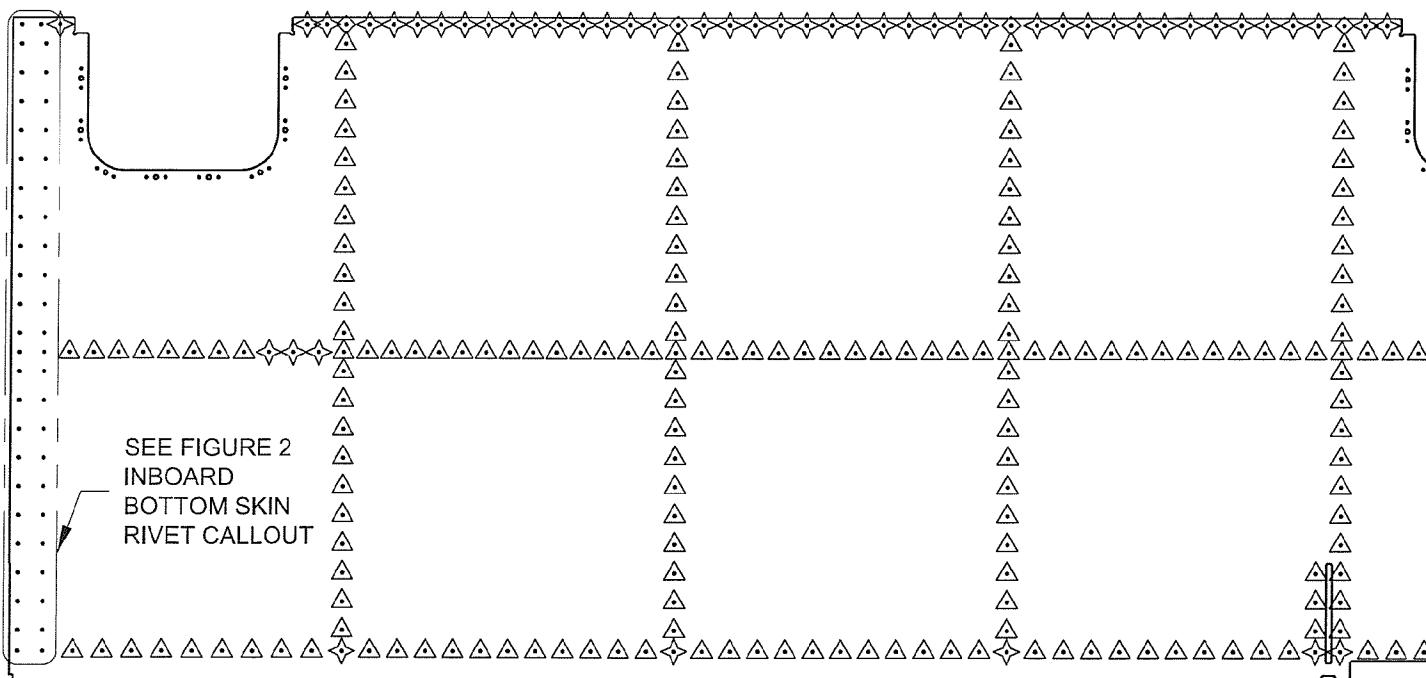

FIGURE 2: BOTTOM INBOARD SKIN RIVET CALLOUTS
Step 12: Cleco the W-1005-L Bottom Outbd Wing Skin to the main spar assembly and rib that comprises the next rib bay immediately outboard of the riveted portion of the skin. Remove all clecoes from the two outboard rib bays. Carefully, so as not to form a kink, pull the unclecoed outboard portion of the bottom outbd wing skin back to gain access and rivet the rib bay. Rivet callouts are found on Page 20-6, Figure 2 and Figure 3. Repeat this step on each remaining rib bay.